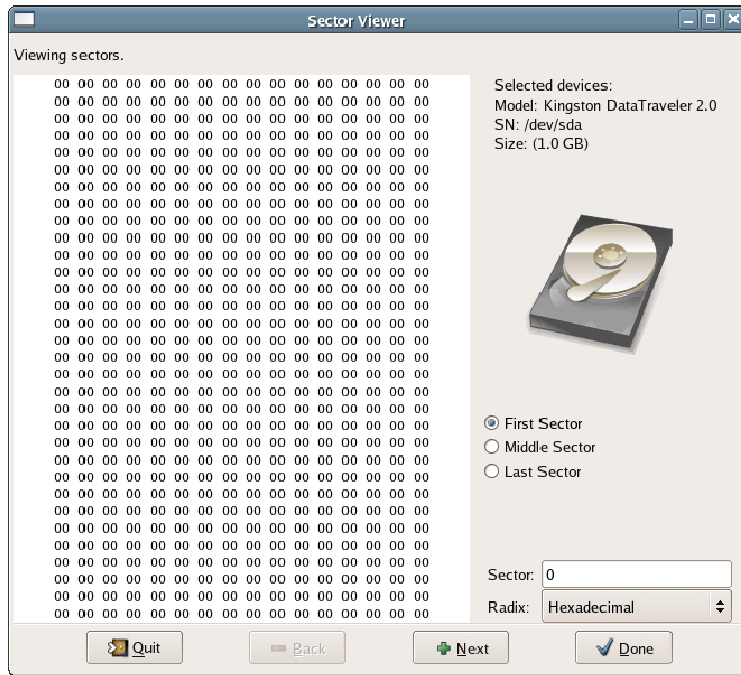

Figure 5: Sector Viewer
5.2 After highlighting a drive, right click on the selected drive and a “Sector Viewer” dialog box will be displayed. Click on this dialog box and the Sector Viewer windows will appear. The sector viewer is shown in Figure 5 below.